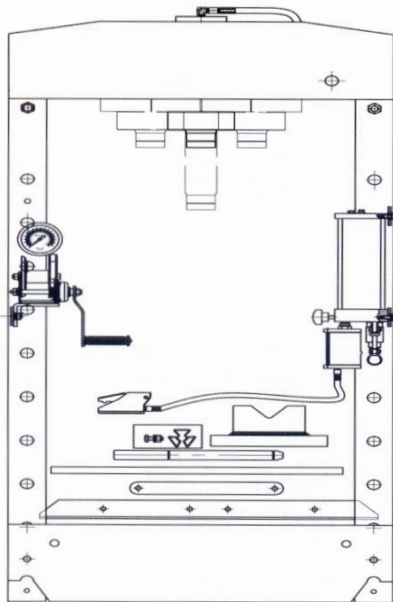

Figure 1
- The bed frame (23) is at the bottom in for convenient for packaging and transport, then fixed on the post (10) by two bolts M12. (figure 1)